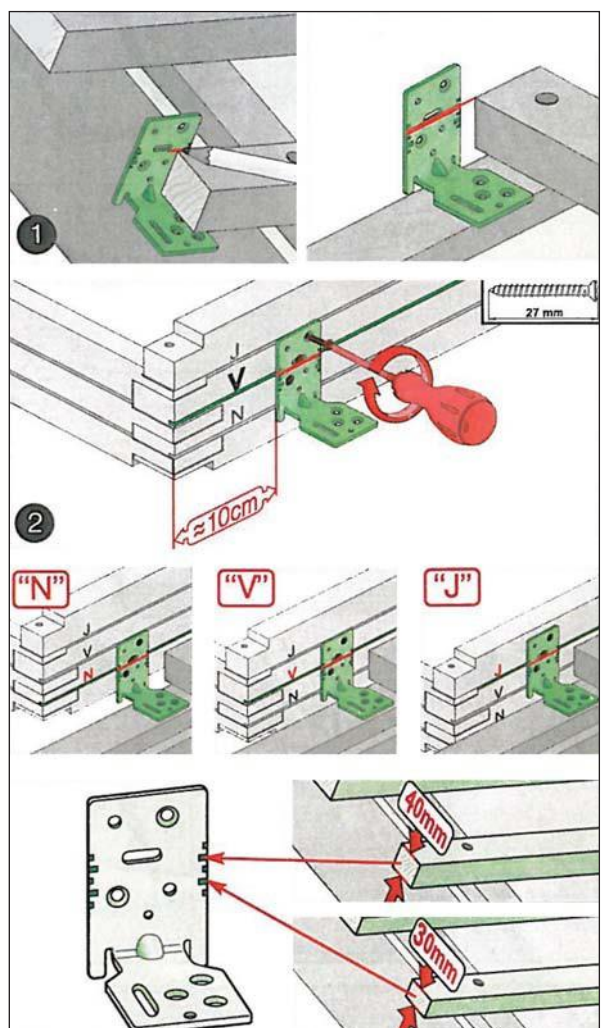
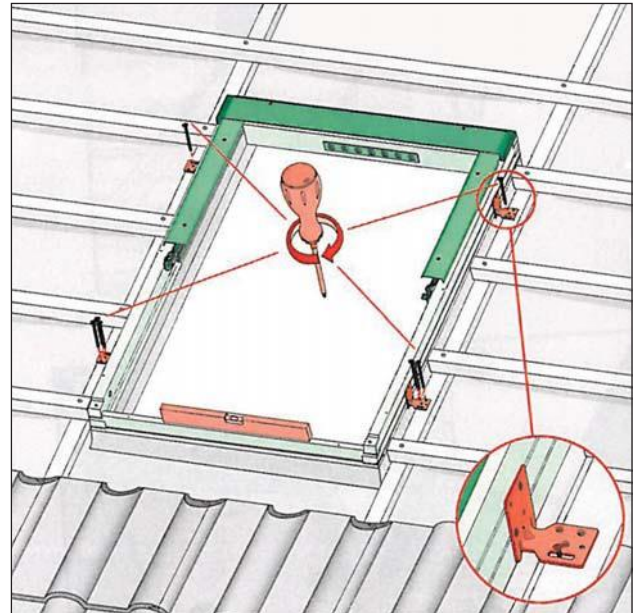

Fig 8
Fig 9
9) Screw the metal angles (included in the assembly kit) to the sides of the roof window frame approximately 100mm from the corners (so that they miss the battens/purlins). The groove N should line up with the top of the purlins for concrete and corrugated iron roofing; groove V for pressed metal tile e.g. Decrabond (Fig 8).
10) Place the frame in the prepared opening in the roof. Rest the metal angles on the rafters, (Fig 8) and check if the appropriate groove covers the upper surface of the batten. Using a spirit level check at the bottom if the frame is placed horizontally. Put one of the supplied wedges under one of the angles if it is required (Fig 9). Screw only the bottom angles to the rafters.